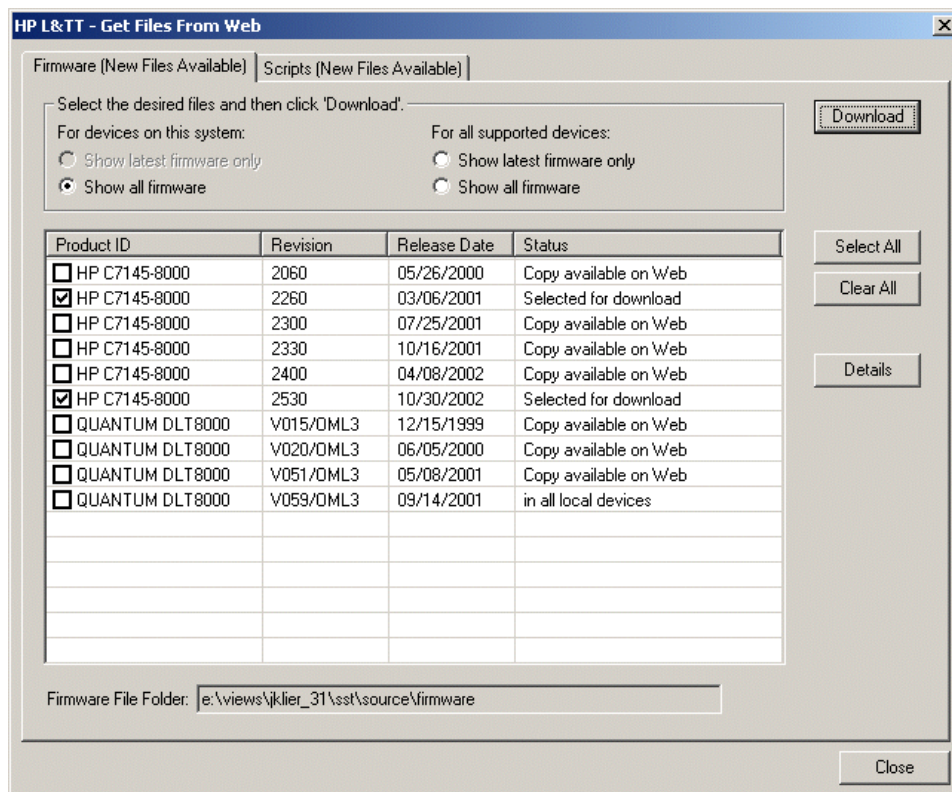

Figure 12: Get Files from Web dialog box—Firmware tab
- The **Get Files from Web** dialog box is displayed. Click the **Firmware (New Files Available)** tab if it is not already selected. Figure 12 shows the **Get Files from Web** dialog box for firmware.